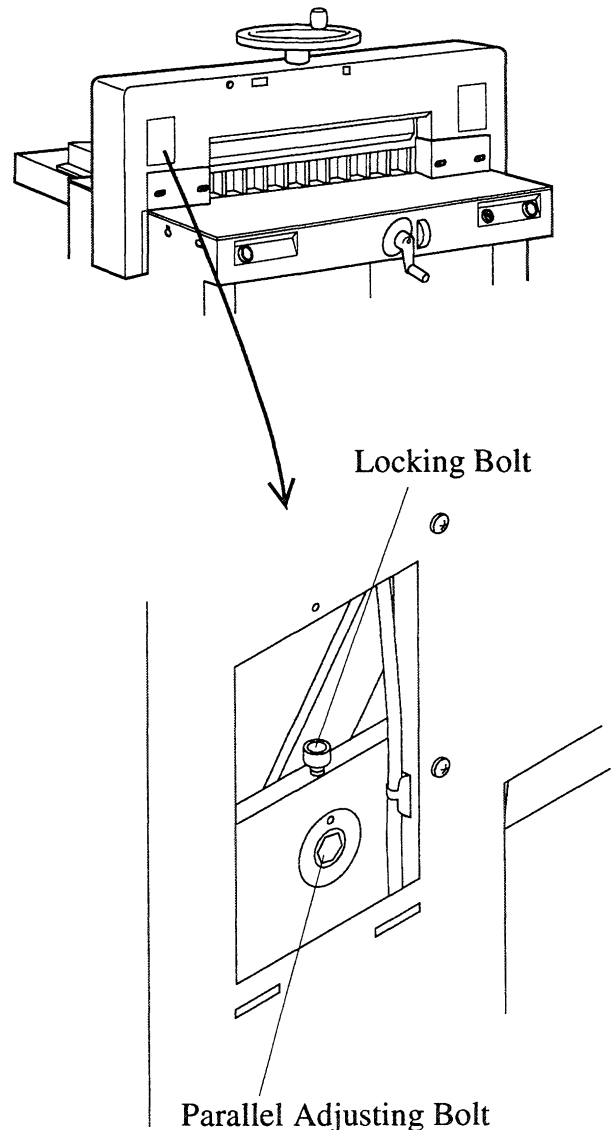

Fig. 5-5
- Loosen locking bolt by supplied allen wrench. (Fig.5-5)
- Insert allen wrench into parallel adjusting bolt (Fig. 5-5), turn bolt counterclockwise to raise left hand side of knife.